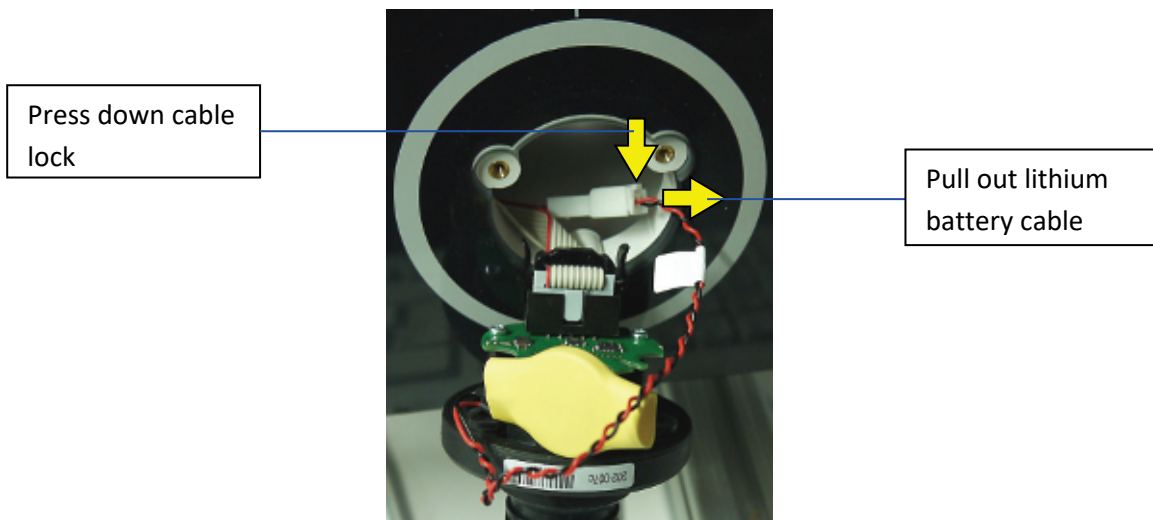

Fig. 41: Removing the rotary/push button (shown with battery removed)
5. Removing the lithium battery: Press down the cable lock and pull the battery cable connector out of its mating connector (see Fig. 41).